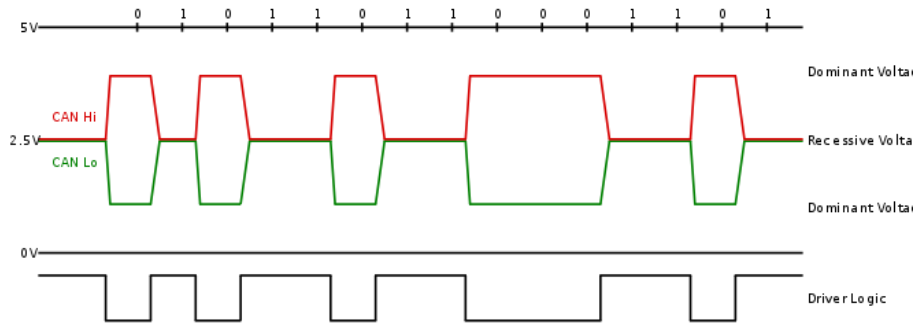

Figure 3. An example of the CAN protocol.
4. Set the CANH probe to trigger on the rising edge and the CANL probe to trigger on the falling edge. Figure 3 illustrates how the pair of signals work together to form the data bus.